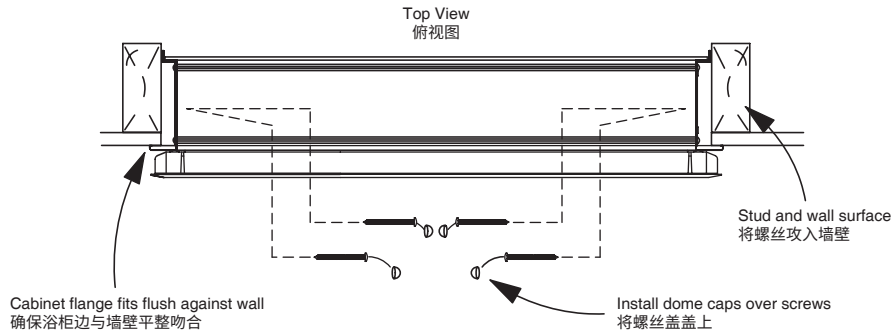

Fig. 2 图 2
B. Install screws through holes in cabinet as shown in Fig. 2
B. 按图 2 所示将螺丝装入浴柜的螺丝孔中。